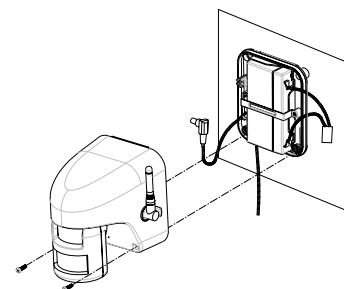

FIGURE 3
7. Refit the camera to the backplate using two fixing screws provided. (FIGURE 3)